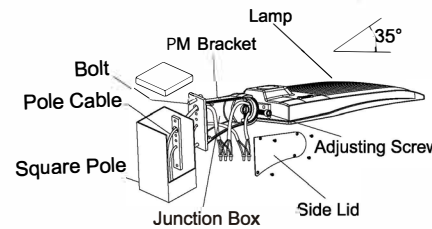
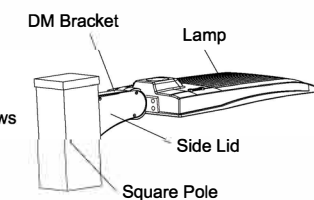

Figure 13
Figure 14
Step 1. Fix PM bracket to square pole with bolt, open the access cover of PM bracket, pull the wires into the junction box, and connect the wires correctly (Figure 13)
Step 2. Put the connected wires into the junction box, then cover the junction box (Figure 14) *Notice: Adjustable angle is 0-90° (Figure 13)*